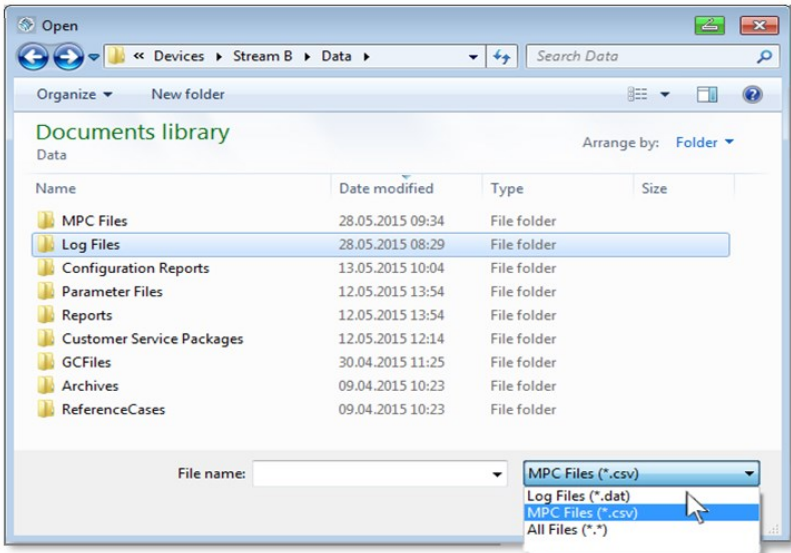

Figure 18-2 Log and MPC file formats
- ✓ A new window will open, allowing you to select the files you would like to view. Please see Figure 18-2.
You must select the correct file format in the drop down menu, as shown in Figure 18-2.